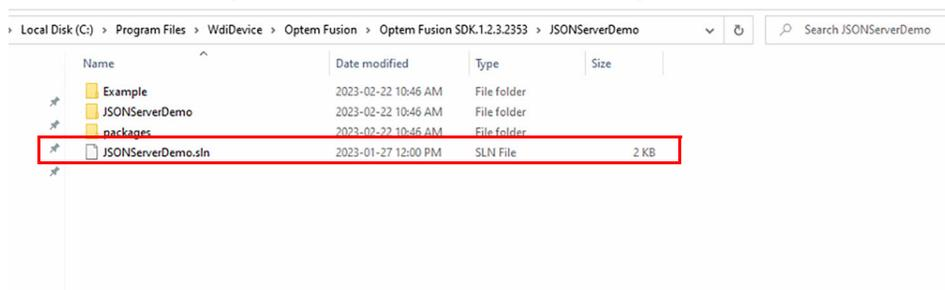
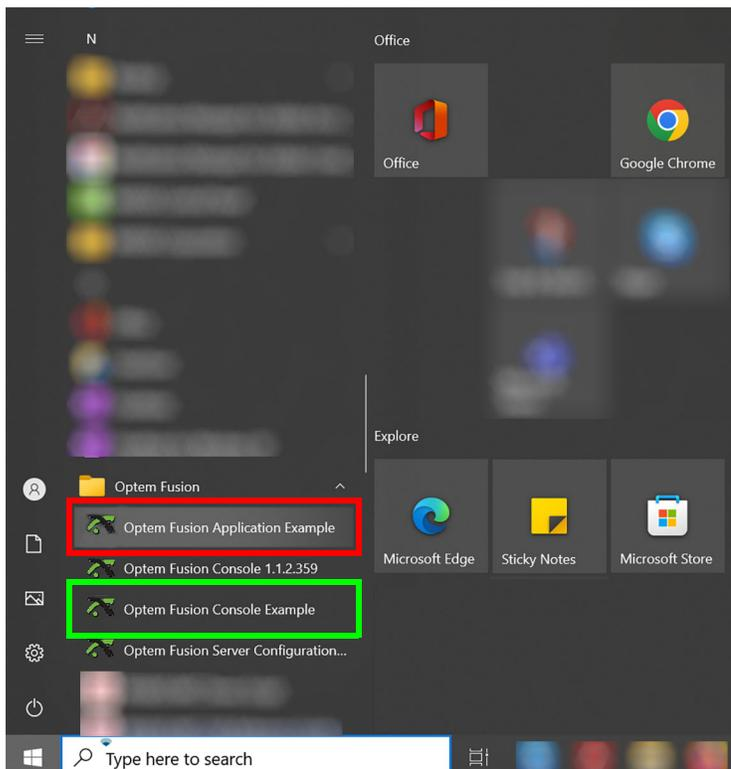

Figure 43 XML script file folder
Figure 44 Start menu – Optem® FUSION C# Test Examples
- Click the selection button to the right of the Script File text box (outlined in green in Figure 44), to select the XML script file to load (outlined in red in Figure 43).
- Optem Fusion Application Example (outlined in red in Figure 44), or
- Optem Fusion Console Example (outlined in green in Figure 44)